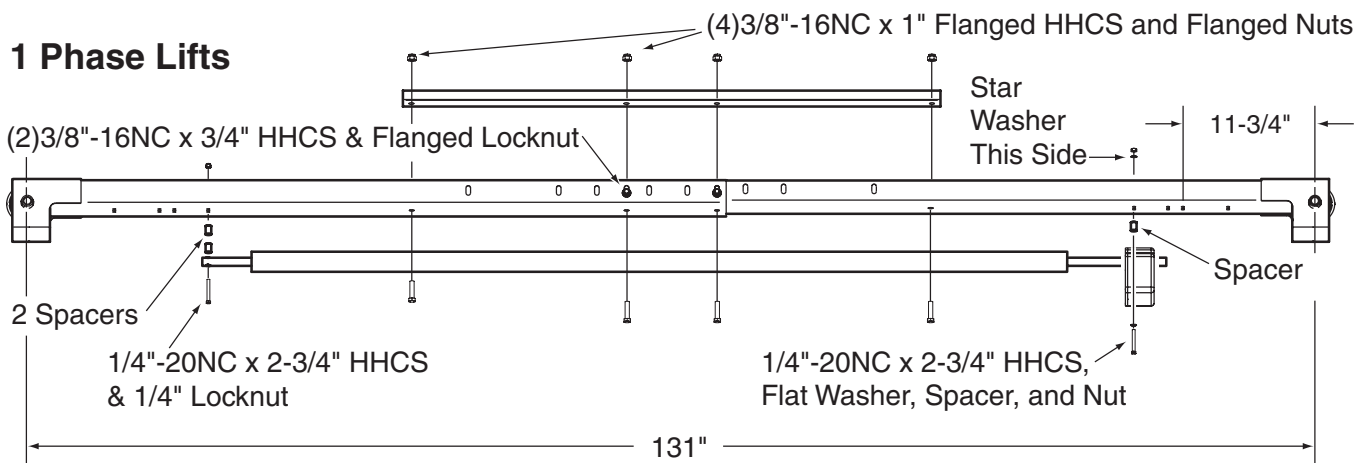
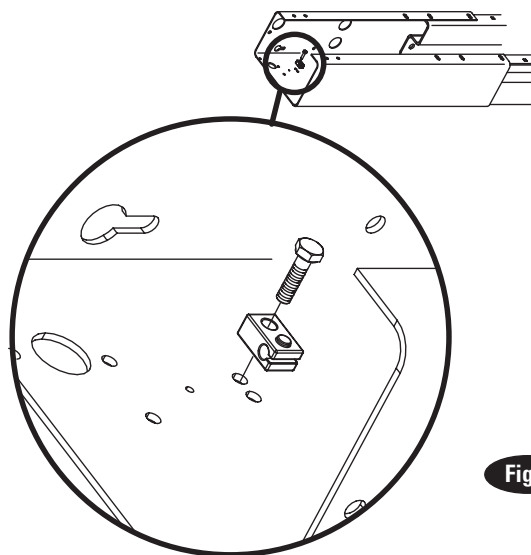

Fig. 6
Fig. 3
2. Latch Cable Guides: Install the latch cable conduit guide brackets to column extensions with (1) 1/4"-20NC x 1" HHCS and 1/4"-20NC Flanged Locknuts, Fig. 3. HHCS should go through hole nearest the edge as shown, Fig. 3.
3. Column Extensions: While column is on the ground, install column extensions using (4) 3/8"-16NC x 1" lg. Carriage Bolt and Flanged Locknut, Fig. 3 & Fig. 1b. Use (2) 3/8"-16NC x 2-1/2" lg. Carriage Bolt and Flanged Locknut to attach the tie bar and the column extension together at the column's uppermost holes, Fig. 3. The tie bar is positioned on the outside of the column extension. Adjust the column extensions plumb.
IMPORTANT: All star washers are to be mounted on the right side column to ensure grounding of overhead limit switch. Star washers are not needed when mounting to left side column. Notice the column extension mounting, Fig. 3 and overhead limit switch mounting as well in Fig. 3 & Fig. 6.